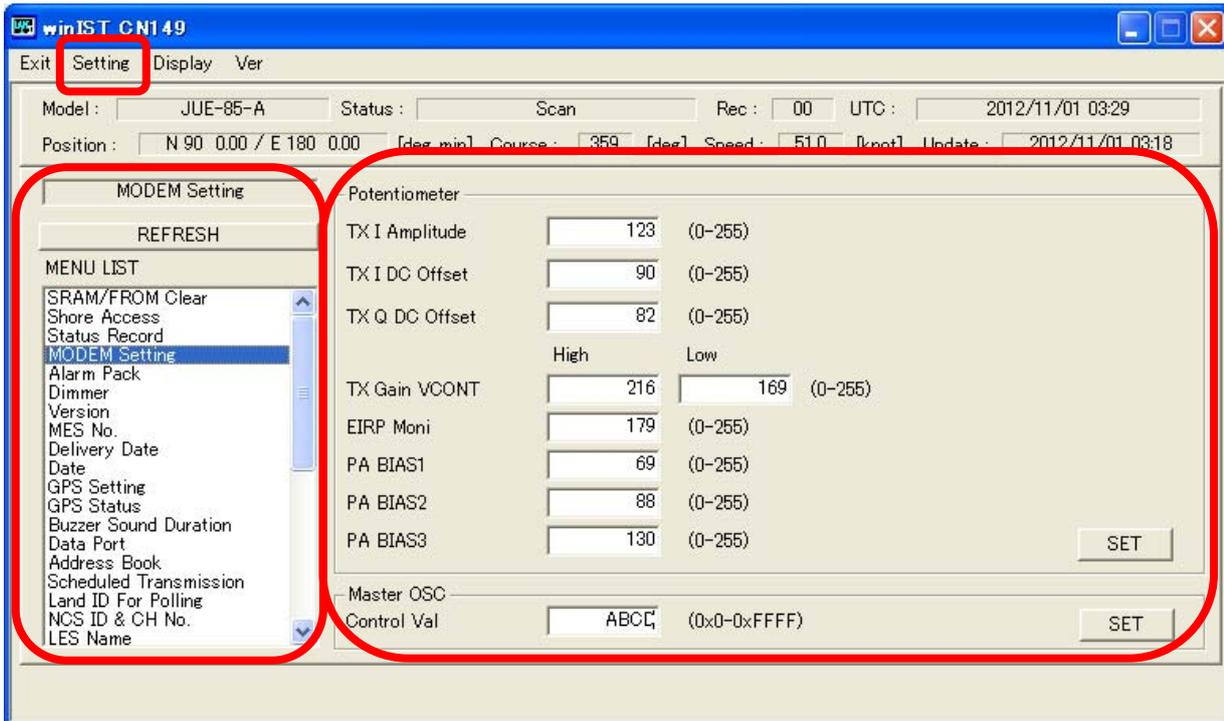

Fig. 4-5-1 [MODEM Setting] screen
2. Operation except [Exit], [Display], and/or [Ver] is not possible while winIST is communicating with INMARSAT terminal(the function in the frame of **Fig. 4-5-1 [MODEM Setting] screen** cannot be operated).
4. Operation except [Exit], [Display], and/or [Ver] is not possible while winISP is communicating with INMARSAT terminal(the function in the frame of **Fig. 4-5-1 [MODEM Setting] screen** cannot be operated).